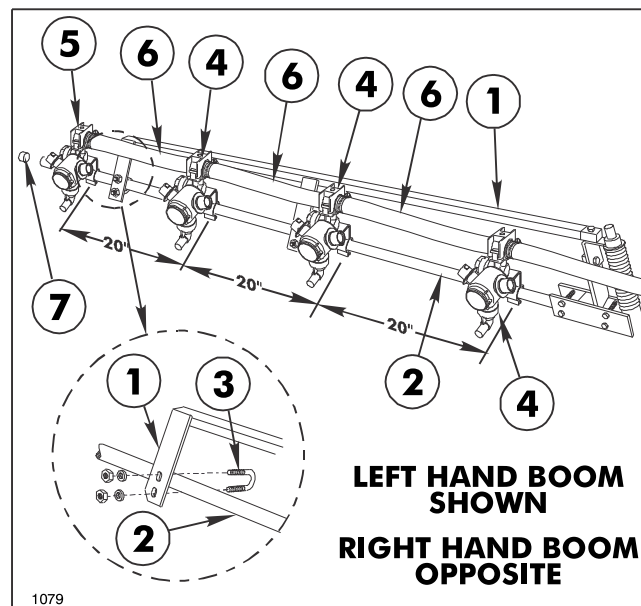

FIG. 9
11. Attach the left Boom Support Assembly to the Pivot Assembly, using a 5/16" x 1-1/2" screw and hex nut. Secure the two plates of the Boom Support Assembly to the Extension Boom Pipe, using two 1/4" U-bolts, four flat washers, and four lock nuts. See FIG. 9.
14. Attach the three Double Barb and one Single Barb Turret Assemblies on each Extension Boom Pipe. Nozzles are to be level and spaced on 20 inch centers. Connect the Turret Assemblies with the 3/4" x 19" Jumper Hoses. Secure with hose clamps(FIG. 9). NOTE: The two jumper hoses provided with this kit, which are 21", should be cut to 19" for this setup.